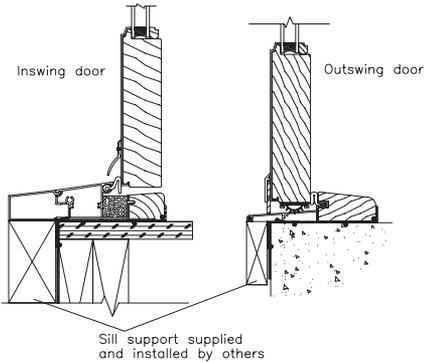

Figure 16
21. Some installations will require sill nose support. See Figure 16 for typical applications.